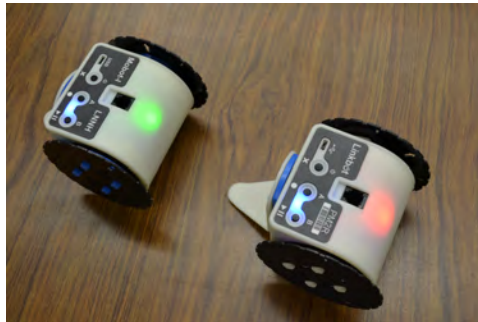

Figure 13.9: Passing a baton in a relay race with two robots.
Write a program `batonpass.ch` to simulate the passing of a baton in a relay race using two two-wheel robots configured and oriented as shown in Figure 13.9. Both robots begin with red LEDs. When the first robot begins to move, its LED changes to green, while the second robot remains stationary with a red LED. The first robot should be able to travel any distance to reach the second. When the first robot runs into the second one, the accelerometer of the second robot responds to the bump. The first robot then stops and changes its LED back to red as the second robot begins traveling forward with a green LED for 6 inches.
6. Modify Program 13.15 as the program `batonpass2.ch` to simulate the passing of a baton in a relay race using two robots as shown in Figure 13.9. Change the **while** in Program 13.15 to the code below